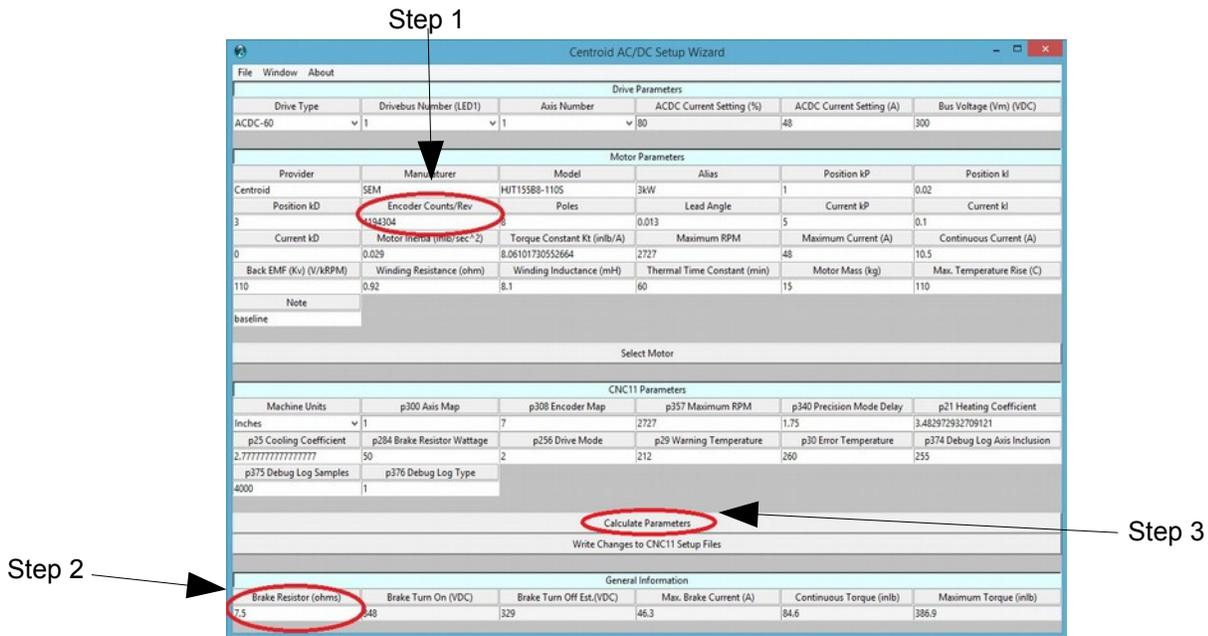

Figure 3.3.9
1. Under “**Motor Parameters**” enter your encoder counts in the “**Encoder Counts/Rev**” box as circled in Figure 3.3.9.